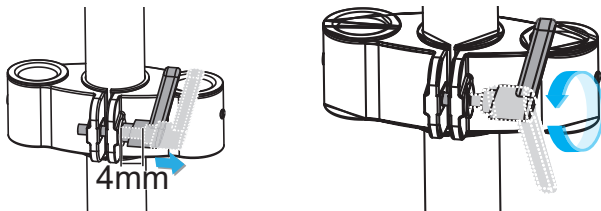

Figure 9
4. (Optional) For additional tightening, **Pull and Hold the Handle** then **Rotate Counterclockwise**. Release the **Handle** and repeat **Step 3**. (Figure 9)